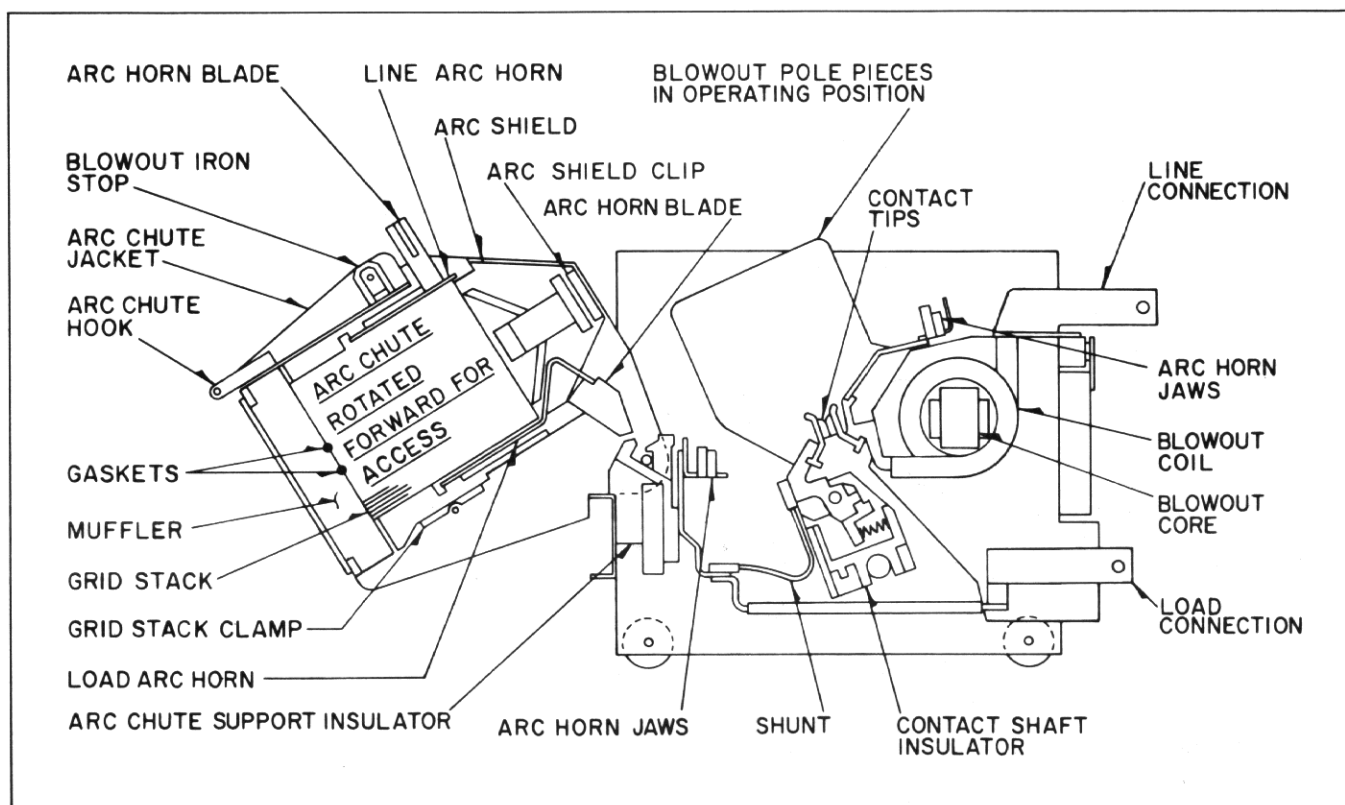

Fig. 8 Sectional View Through Contacts (Dwg. 3513C87)
For visual inspection of the contacts and shunts the arc chutes may be rotated forward out of the normal operating position as shown in Figure 8.
Arc chutes can be removed completely by first rotating them forward toward the front, as shown in Figure 8 and then lifting upward until the horizontal pivot bolt comes free. It is not necessary to loosen hardware to remove the arc chutes.
- 1) Refer to Figure 8 and loosen the grid stack clamping screw.
13) Return arc chutes to contactor by dropping pivot bolt into the slot of molded arc chute support as shown in Figure 8 and then rotate the arc chute into operating position as shown in Figure 2. When in the operating position arc horn blades should make at least .25" engagement with their respective arc horn jaws. In the event an attempt is made to install 5 KV arc chutes on this 7.2 KV contactor or if blowout pole pieces are not in their proper operating position, projections on the arc chute flanges will strike the pole piece assemblies preventing the arc chutes from being rotated into operating position. When the contactor is mounted in an Ampgard starter the arc chute will then prevent the enclosure door and isolating switch from being closed if 5 KV arc chutes are used or if the blowout pole pieces are not in their proper operating position.